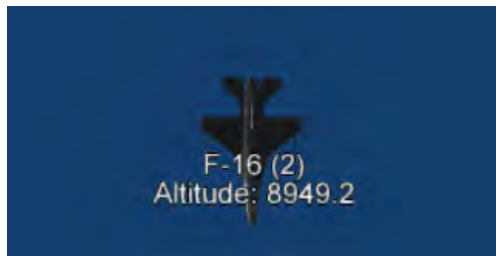

Figure 5.93: Custom Label with Altitude Offset
14. Zoom-in to the **F-16(2)** platform, the display should be similar to Figure 5.93.